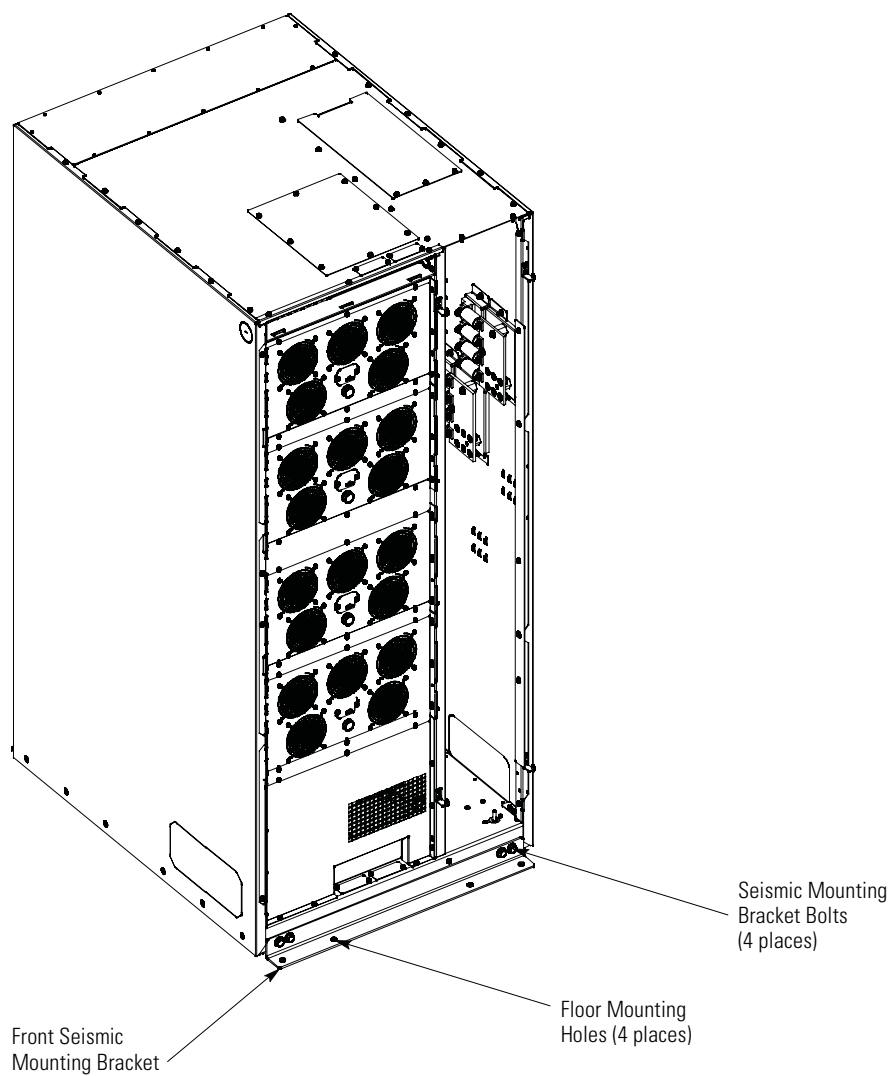

Figure 2. Front Seismic Mounting Bracket Installation
3. Remove the front seismic mounting bracket from the kit and secure to the UPS cabinet base using the bolts supplied with the kit. See Figure 2 for mounting bracket installation location.